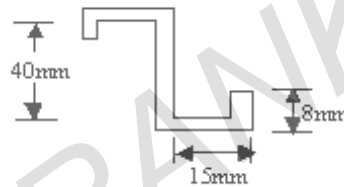

Figure 1b
- (b) Calculate crippling stress for the given extrusion section. Assume $E=75$ GPa, Thickness of web is 1.5mm and thickness of flanges is 2mm. Shown in figure 1b. [6+10]